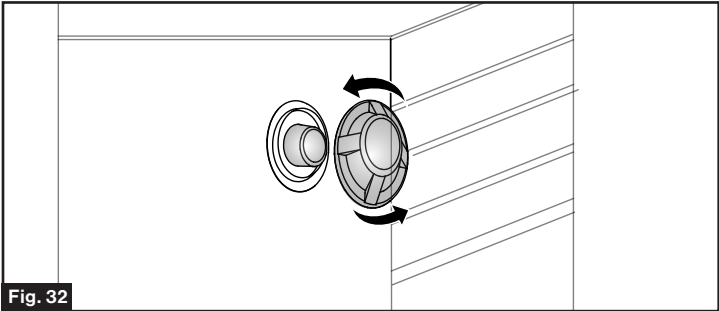

Fig. 32
- Remove the light cover by rotating to the left. (Fig. 32)